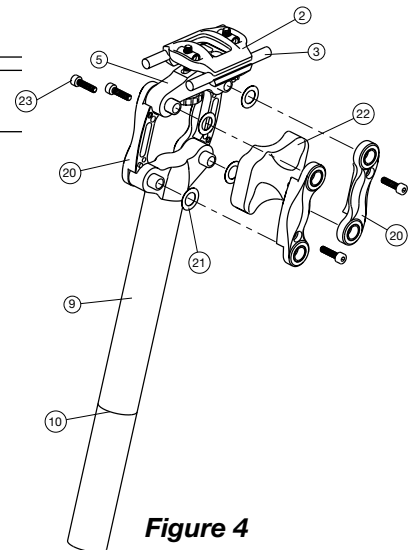

Figure 4
- Slide one half of the front arm off the pivots (figure 4). Wiggling the saddle fore and aft while pulling on the arm half will make it easier to remove.